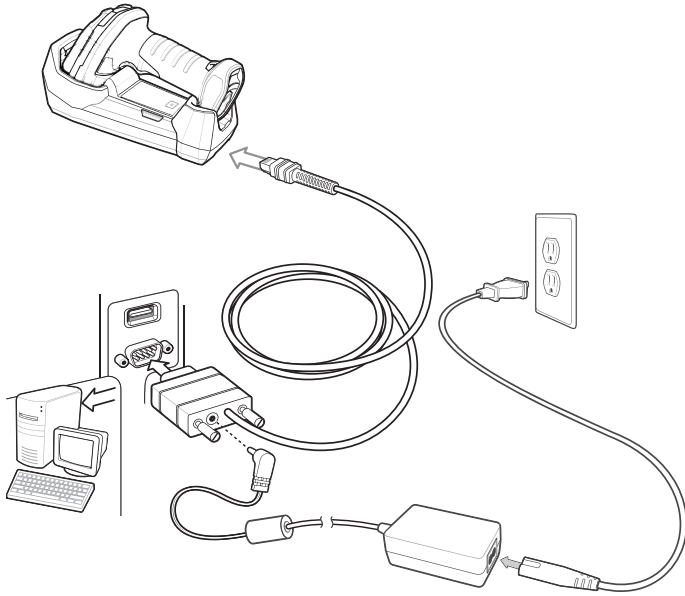

Figure 9-1 RS-232 Direct Connection
- ✓ **NOTE** Interface cables vary depending on configuration. The connectors illustrated in Figure 9-1 are examples only. The connectors may be different from those illustrated, but the steps to connect the cradle remain the same.